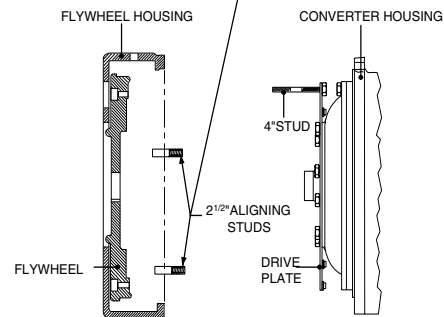

FIG. 2
3. Install two 63,50 mm (2.50") long transmission to flywheel housing guide studs in the engine flywheel housing as shown. Rotate the engine flywheel to align a drive plate mounting screw hole with the flywheel housing access hole (Fig. 2).